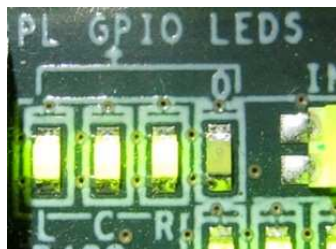

Figure 2-4 LED status after system set up complete
- Check GPIO LEDs status on ZC706 board at LEDL, LEDC, and LEDR are all ON, LED0-LED2 that all ON, as shown in Figure 2-4. Each LED description is described as follows.